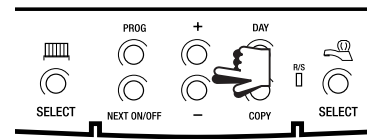
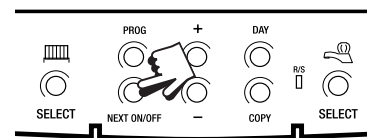

Fig. 4
Fig. 8
4. Press the **DAY** button once (Fig. 4) and **SASU** will appear at the bottom of the display (Fig. 8). Programme new ON/OFF times by pressing the **NEXT ON/OFF** button (Fig. 7) once to move to the next setting and using the **+** and **-** buttons (Fig. 3) to set the time you want.
3. Press **DAY** button once only (Fig. 4), the next day (e.g. **TU**) will appear at the bottom of the display. Continue programming for the rest of the week by pressing the **NEXT ON/OFF** button (Fig. 7) to move to the next setting, using the **+** and **-** buttons to amend the time, and by pressing **DAY** to advance to the next day (Figs. 7, 3 & 4).